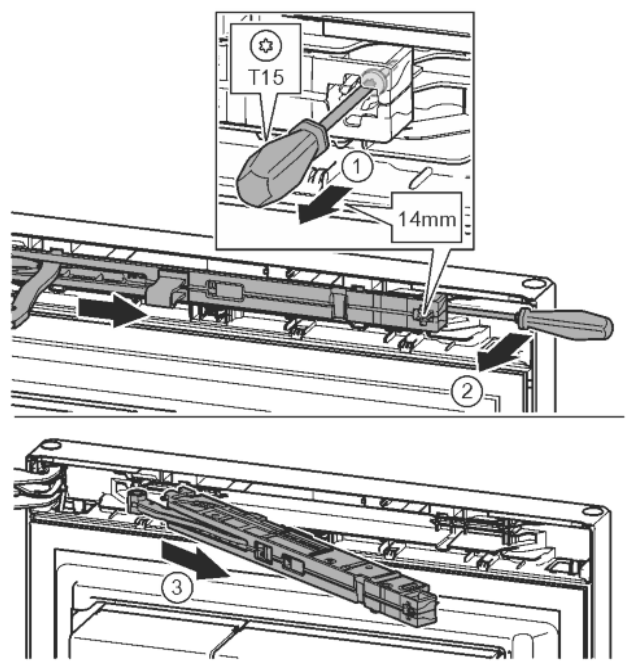

Fig. 10
- Undo the soft stop mechanism screw with a T15 screwdriver approx. 14 mm. Fig. 10 (1)
- Insert a screwdriver behind the soft stop mechanism on the handle side and rotate forwards. Fig. 10 (2)
- Remove the soft stop mechanism. Fig. 10 (3)